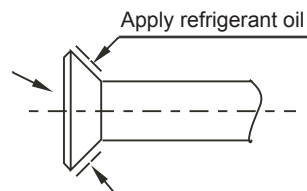

Fig. 6-1
- b. Before fastening the flared nut, apply refrigerant oil on the outer surface of the pipeline flare and the taper surface of the connection nut. Rotate the nut for 3-4 times before fastening it (see Fig. 6-1).